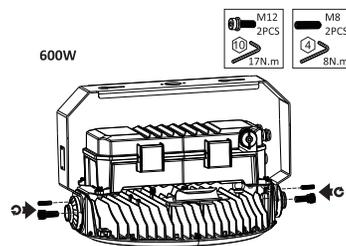

Fig. 29
2. Secure multi-mount bracket to fixture by re-attaching yoke mount plates on each side of the fixture (Fig. 29).